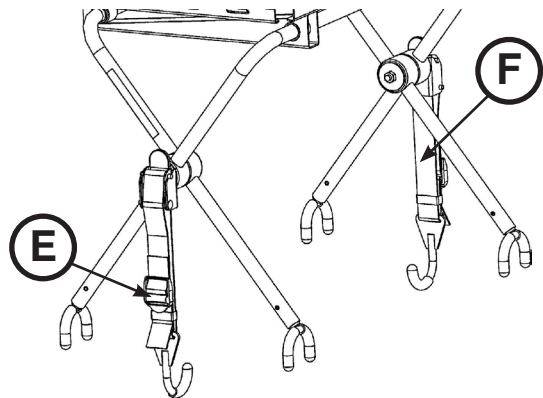

Figure 67c
- If the defibrillator platform is not securely attached to the cot when both latch hooks are engaged or if you cannot secure the latch hooks around the cot litter frame, unlatch the tab (E), loosen or tighten the strap (F) until the proper adjustment is achieved, and then push the tab (E) up until it locks into place with an audible click (Figure 67c).